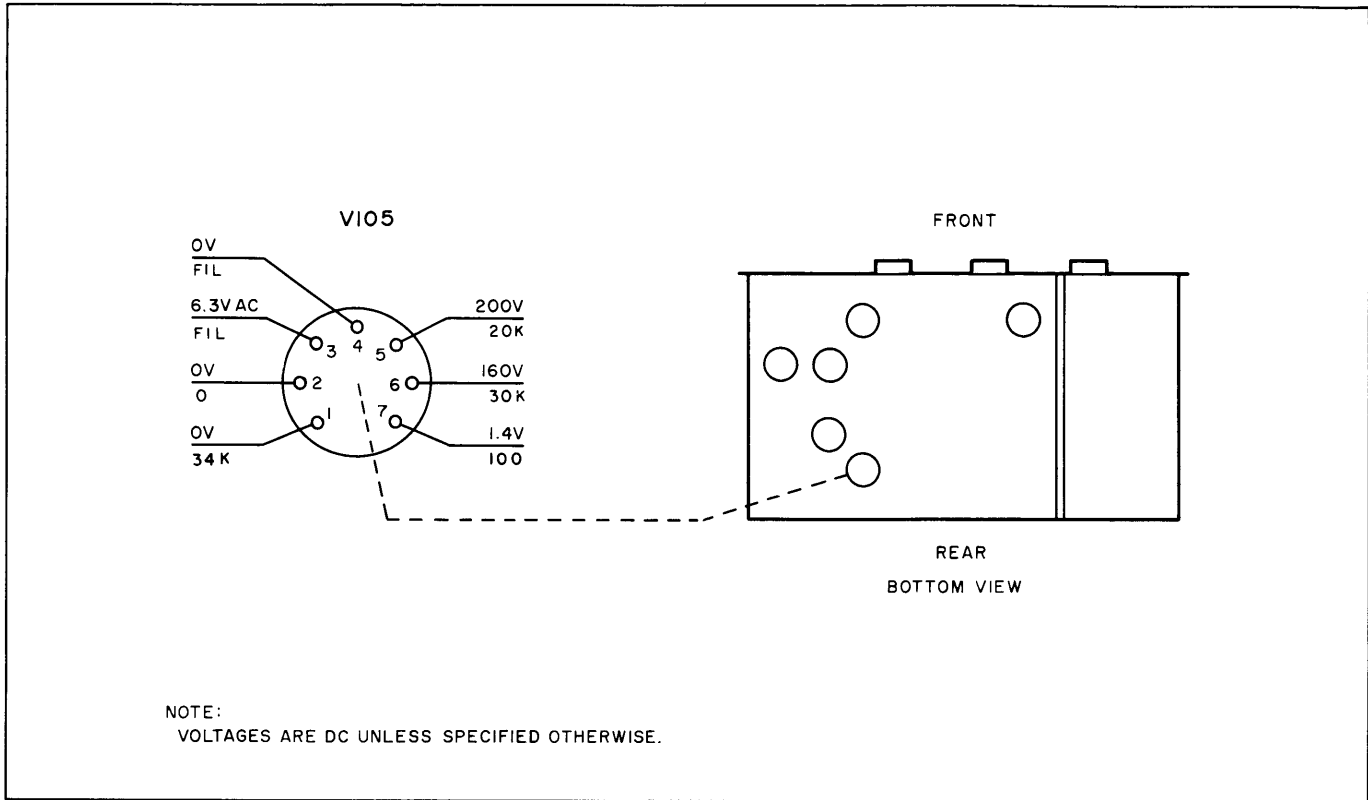

Figure 4-8. Bottom View Showing IFO Tube
b. TEST DATA. (See figures 4-8 and 4-9.) - The IFO output at jack J104 or J105 should be one volt (rms). The frequency of the IFO circuitry can be monitored by connecting a frequency counter to either of these jacks. Trimmer capacitor C129 can be varied to compensate for various changing circuit parameters. The trimmer is located at the side of the oven. A defective output can be caused by
a bad tube or circuit components. Check V105 and its plate load (transformer T102). A bad output can also be caused by a defective excitation capacitor: check C130, C131, and C132. If it is necessary to align this particular circuit, see paragraph 5-3 in section 5 of this manual. Voltage and resistance measurements are found in figure 4-8.